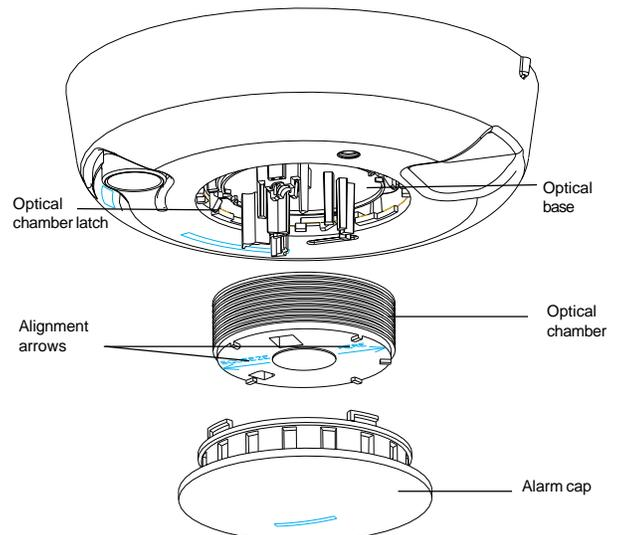

Figure 6. Alarm Parts
5. Squeeze the field replaceable optical chamber where indicated and pull it up and away from the optical base and discard. See Figure 6.